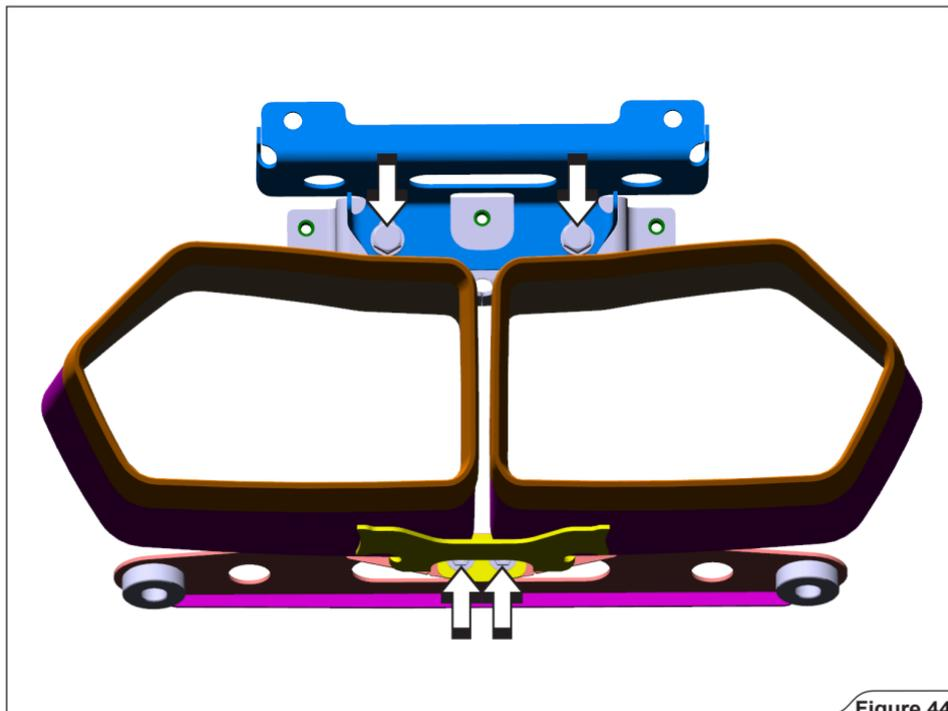

Figure 44
2. Unscrew the marked tail pipe bolts (Figure 44).